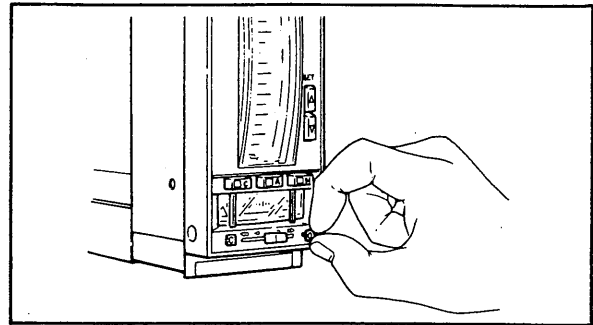

Figure 5-2-4. Mounting Control Valve Action Label.
- (1) Mounting value action indexes (See Figure 5-2-4). Locate the indexes to match the direct or reverse action of the control value. The indexes can be removed manually or with a pair of tweezers.